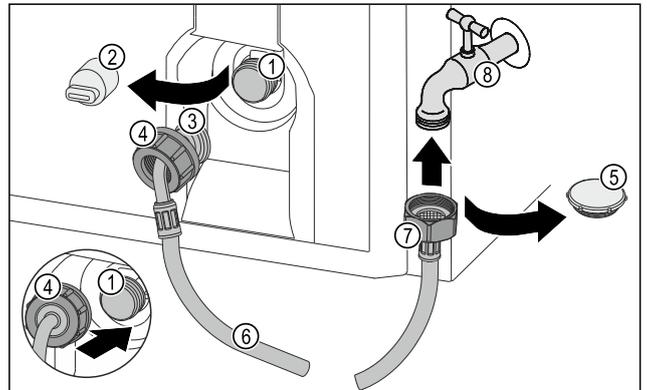

Fig. 58
- ▶ Remove the closure cap Fig. 58 (5).
- ▶ Place the straight end of the hose Fig. 58 (7) on the tap Fig. 58 (8).
- ▶ Tighten the nut at the straight end of the hose Fig. 58 (7) in a clockwise direction.